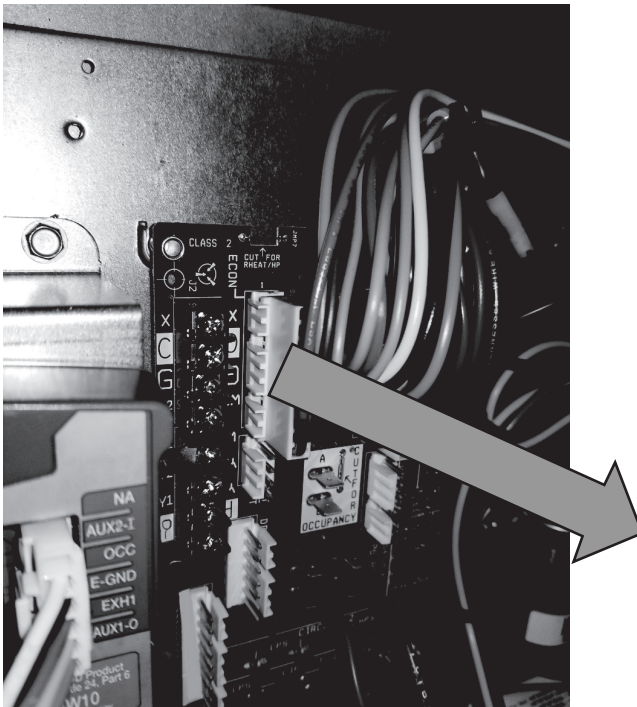

Fig. 8 — Unplug ECON plug from Central Terminal Board (CTB)
11. Unplug the 10-pin female ECON plug currently connected to the Central Terminal Board (CTB). See Fig. 8.